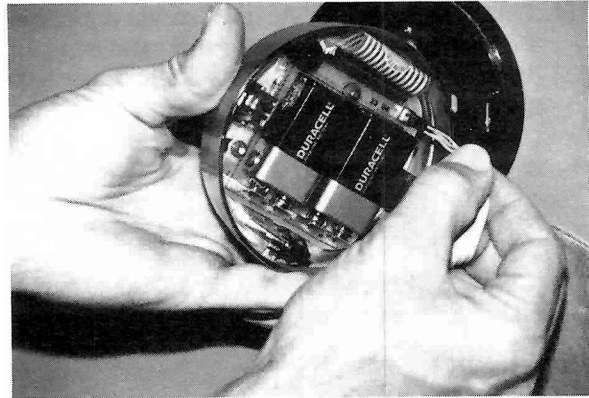

Figure 11
16. Install two (2) 9-volt alkaline batteries in the housing, and plug the lock cable into the housing circuit board. Connector will only plug in one way. Refer to the photograph in Figure 11.